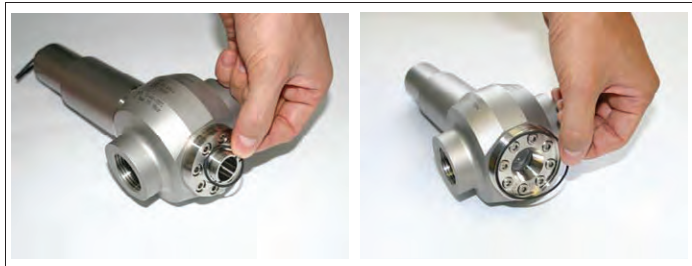

Fig. 5 O-Ring at window ring
2. Place one O-Ring each into the groove of the window rings (see fig. 5).